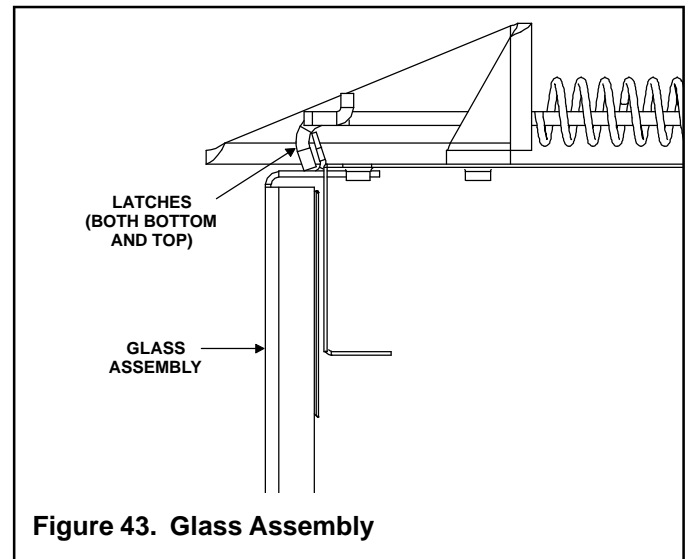

Figure 43. Glass Assembly
- Pull the four glass latches out of the groove on the glass frame. Remove glass door from the unit (see Figure 43).